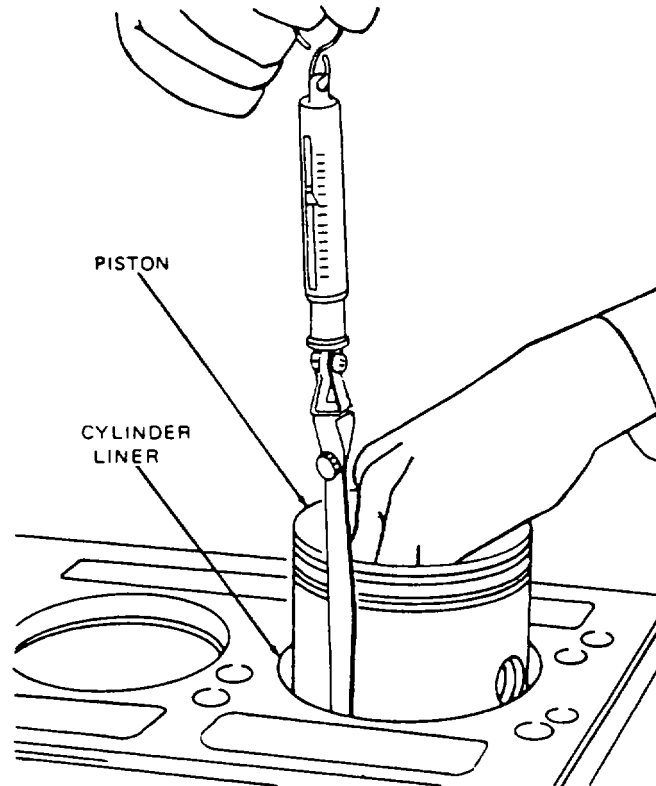

Figure 4-31 . Measuring Piston-to-Liner Clearance Using Tool J5438-01 .
- (12) With cylinder liner installed in cylinder block, hold piston skirt upside down in the liner and check clearance in four places 90° apart.
- (13) Refer to figure 4-31 and use feeler gage set J5438-01 to check the clearance. The spring scale attached to the proper feeler gage, is used to measure the force in pounds required to withdraw feeler gage.
- (14) Select a feeler gage with a thickness that will require a pull of six pounds to remove. The clearance will be .001 inch greater than the thickness of the feeler gage used, i.e., a .004 inch feeler gage will indicate a clearance of .005 inch when it is withdrawn with a pull of six pounds. The feeler gage must be perfectly flat and free of nicks and bends.
- (15) If any bind occurs between piston and liner, examine the piston and liner for burrs. Remove burrs with a fine hone (a flat one is preferable) and recheck clearance.